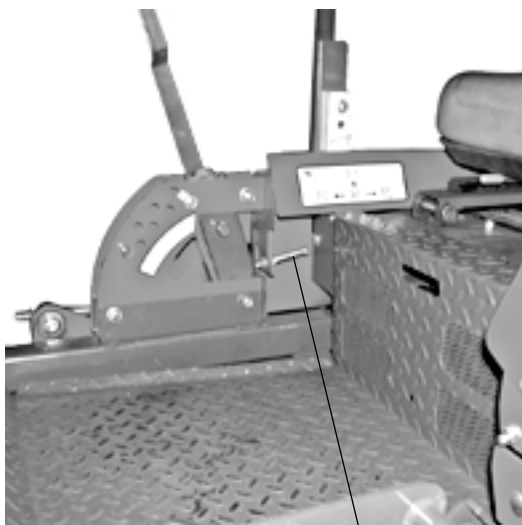

Figure. 10
5. If uneven tracking persists, adjust as follows. (see Fig. 10)